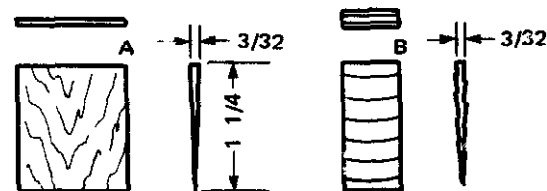

Fig. 11-19 Sizes of wood and metal wedges.
7. See figure 11-19. Prepare a thin wedge equal in width to the eye and about  $1 \frac{1}{4}$  inches long. Drive it into the kerf to its maximum tightness.